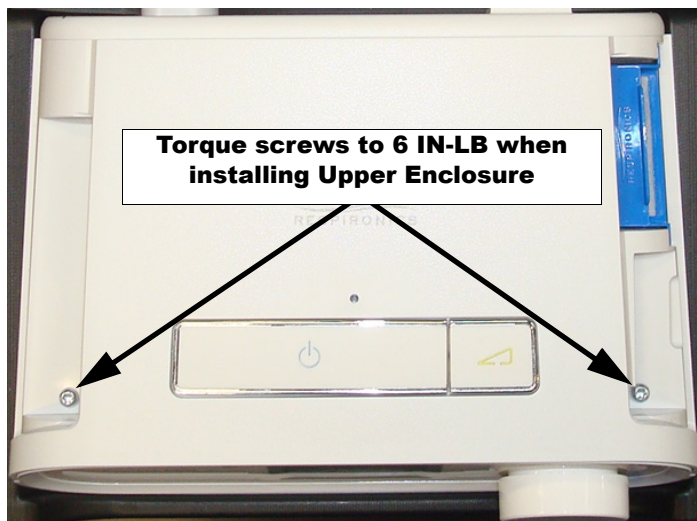

FIGURE 7-3: UPPER ENCLOSURE WITH KEYPAD INSTALLED
2. Remove the two # 4 x 1/2" screws that secure the Upper Enclosure to the Bottom Enclosure using a T-10 Torx driver (refer to Figure 7-3).
3. Install the Keypad on the Upper Enclosure as shown in Figure 7-3 above, and verify it is fully seated.